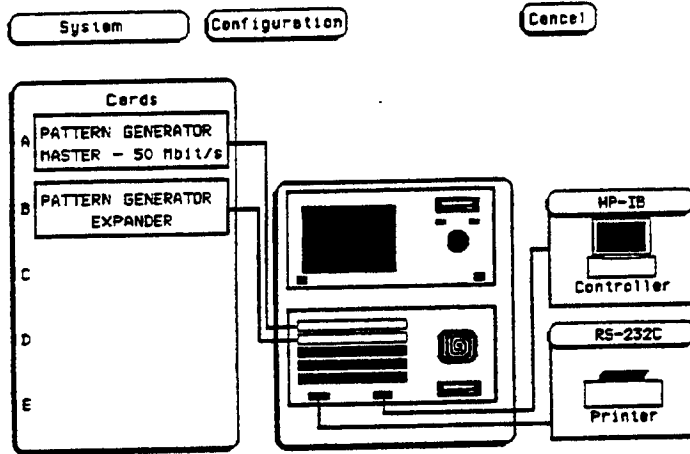

Figure 3-15. Startup Screen
- d. From the startup screen shown in figure 3-15, touch the following field in the ordered sequence below: